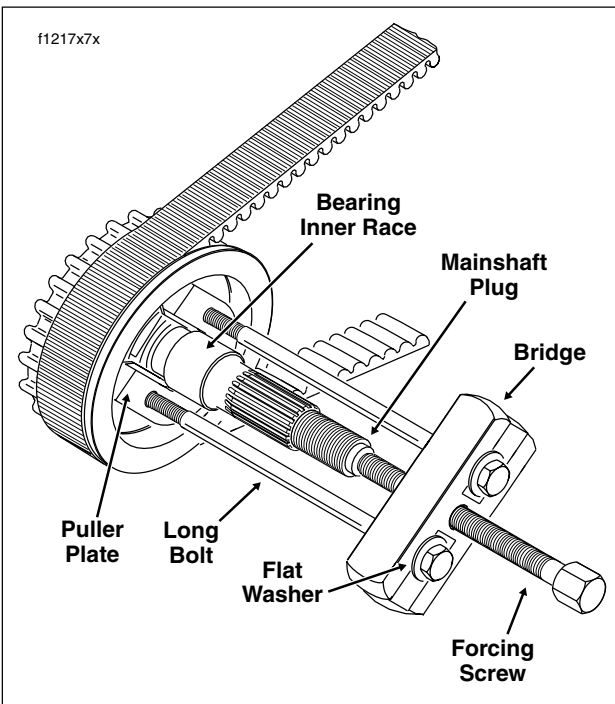

Figure 6-33. Pull Mainshaft Bearing Inner Race
3. Position U-shaped puller plate between bearing inner race and sprocket nut. See Figure 6-33.